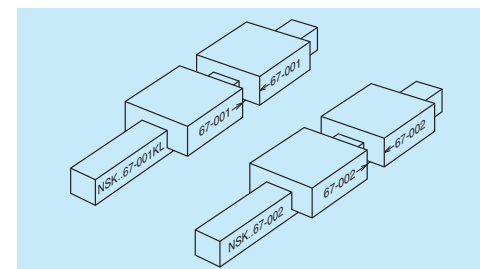

Fig. 10.29 When two rails have the same reference number
- When two or more rails are used in a single set, serial numbers are in sequence if their reference numbers are the same. The linear guide with smallest serial number has the "KL" mark (Fig. 10.29).